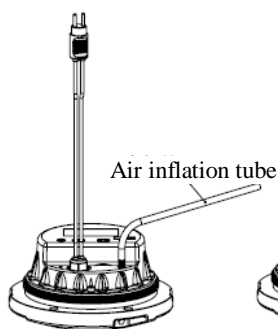

Figure 5-25
- Prepare 138Kpa air source (the air pressure shall not be greater than 150Kpa) and applicable air gun (air tube), inflate the air by aiming at the valve (Figure 5-25) until the air pressure in the lighting fixture meets the requirements. Put this lighting fixture into the water with the depth of 76mm for at least 1min and check whether there are bubbles under the state of static water surface. If not, it means that the sealing property of the lighting fixture is good, otherwise it shall be deemed that the lighting fixture has leakage.